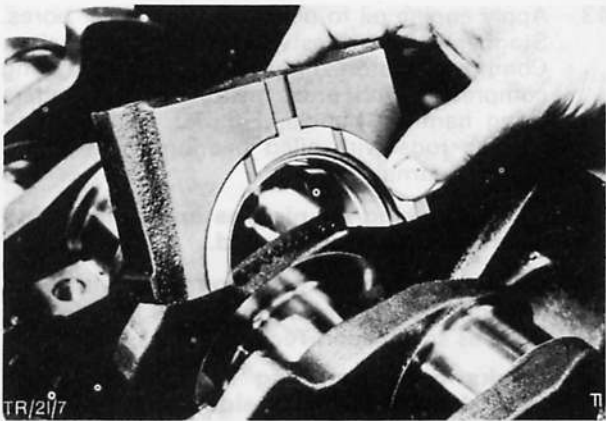

Fig. 67. Fit centre bearing with thrust washers
- 41 (a) Refit main bearing cap complete with lubricated bearing shells, again paying attention to correct location of thrust half washers on centre main bearing cap, Fig. 67. Tighten bearing cap bolts as specified in Technical Data.